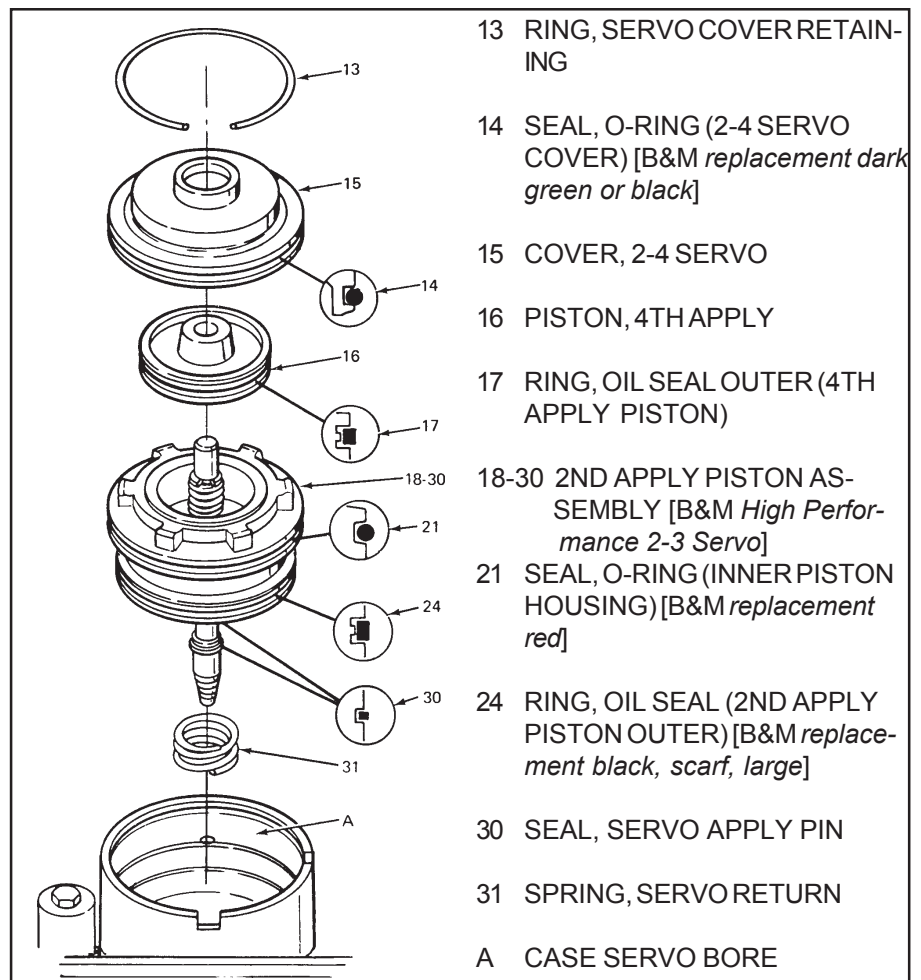

FIGURE 1. Servo Removal / Installation
STEP 1. (Refer to figs 1 and 2) Remove the servo cover retain-
IMPORTANT: Check servo bores (A) in the case for any wear or sharp edges which may cut the servo seals (see fig. 1).
STEP 8. (Refer to figs 1 and 2 for assembly) Install cushion spring (26) into the B&M High Performance 2-4 Servo Piston (25), cushion spring retainer (27) on top of the cushion spring.
STEP 9. Compress spring retainer just past the retaining ring groove in the B&M High Performance 2-4 Servo Piston (25) and install the retaining ring (28).
STEP 10. Install the B&M High Performance 2-4 Servo Piston (25) on the 2-4 servo apply pin (29) with spring (20), washer (19) and retaining E-ring (18) on the 2-4 servo apply pin (29).